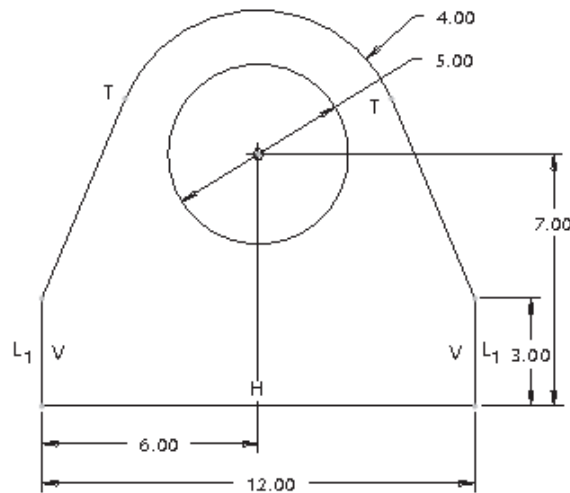

Figure 2-27 The complete sketch with dimensions and constraints
- e. Dimension the sketch and then modify the dimensions of the sketch, refer to Figure 2-27
The sketch is completed and is shown in Figure 2-27.